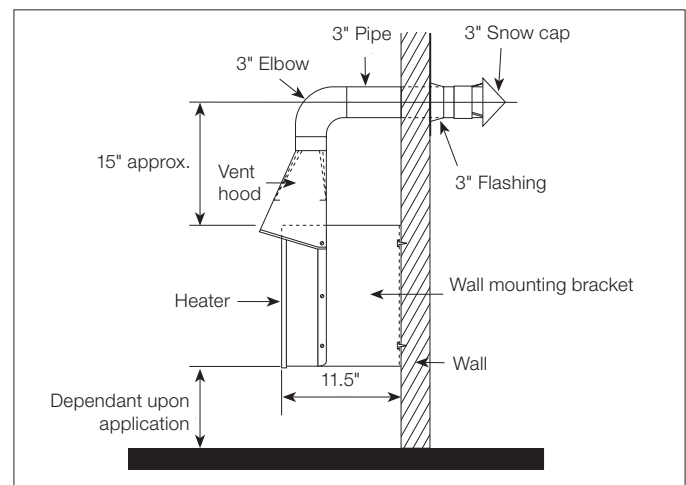

Figure 6 – Ventilation from heater
3. To reduce the carbon dioxide and water vapor concentrations in the building, a vent hood assembly can be installed to provide positive ventilation from the heater (Figure 6, page 5).